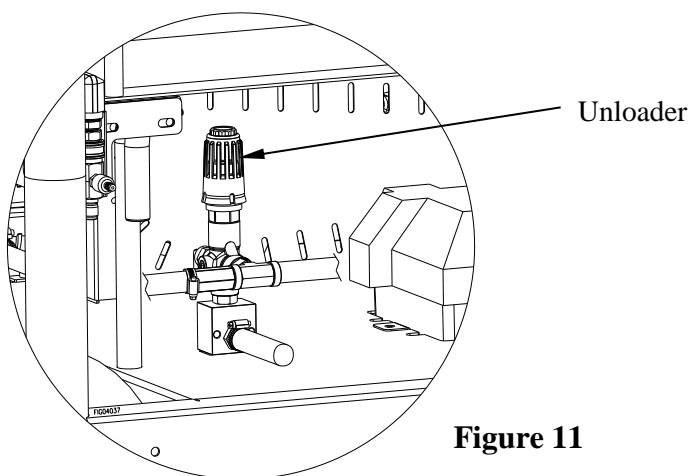

Figure 11
8. The pressure washer is set and locked to the maximum rated pressure when it leaves the factory. To reduce the pressure, turn the unloader knob counterclockwise. (See Figure 11 below)